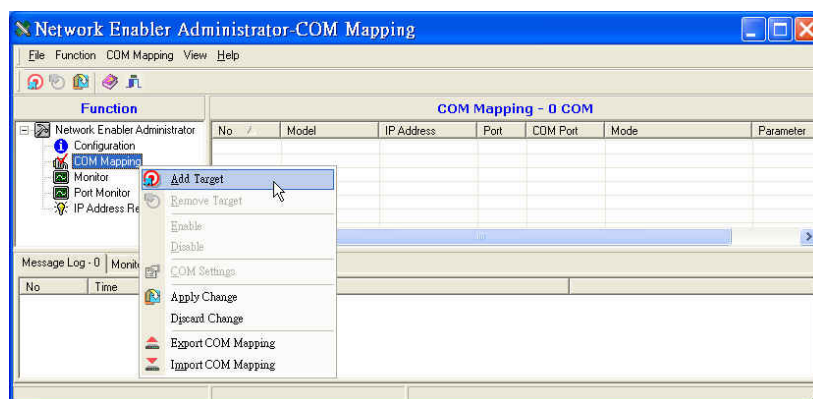

Figure A-3 Execute **Network Enabler Administrator** program for mapping network IP
- Execute **Network Enabler Administrator** program as Figure A-3 shown. Click **COM Mapping** → **Add Target**.